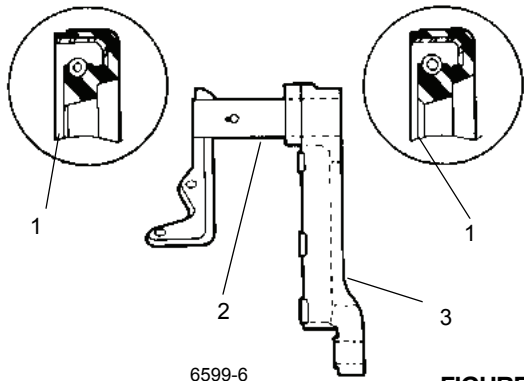

**FIGURE 8-26**
4. Use a seal driver to install new camshaft seals and new bushings into the cast spider and camshaft bracket (Figure 8-26).